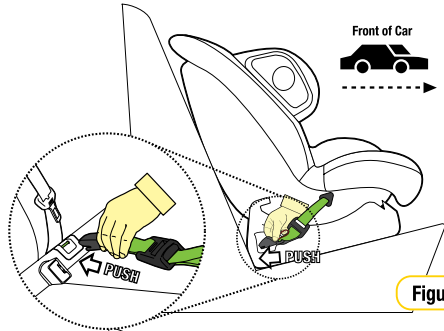

Figure 3
Step 2: Insert the flexible LAC into the vehicle ISOFIX anchorage points. You may need to "PUSH" into the seat bight where the ISOFIX symbols indicate. Give a "PULL" to check for positive engagement (refer to Figure 3).